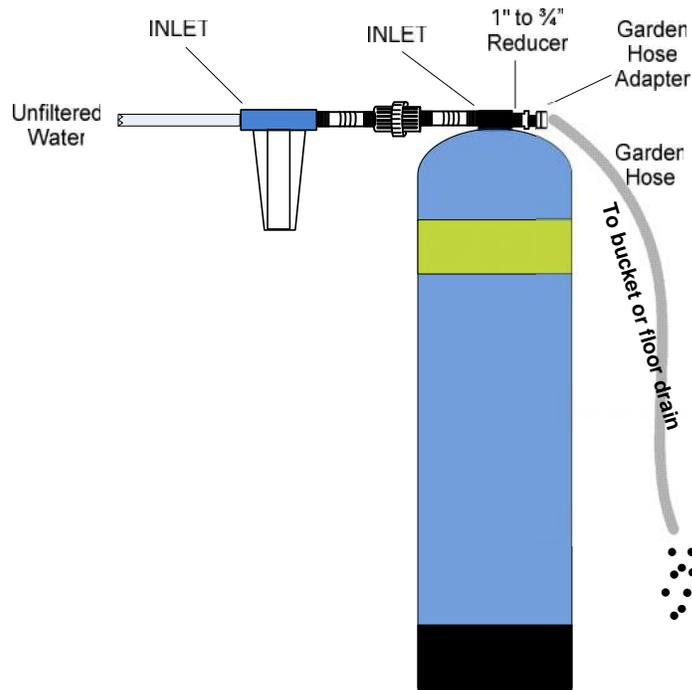

Figure 2
1. Complete all connections to PureMaster™ or FluorideMaster™ tank (See Figure 2)